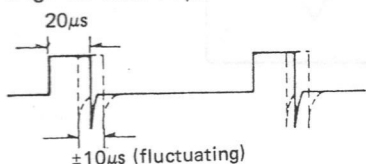

Fig. 10
- Volt CH1 ... 2V/div. (DC)
Step 2 Watching the waveform on the oscilloscope, adjust VR302 (CLV Servo) so that the synchronizing pulse width is $20\mu s$. (Ref. Fig. 10 and 11).